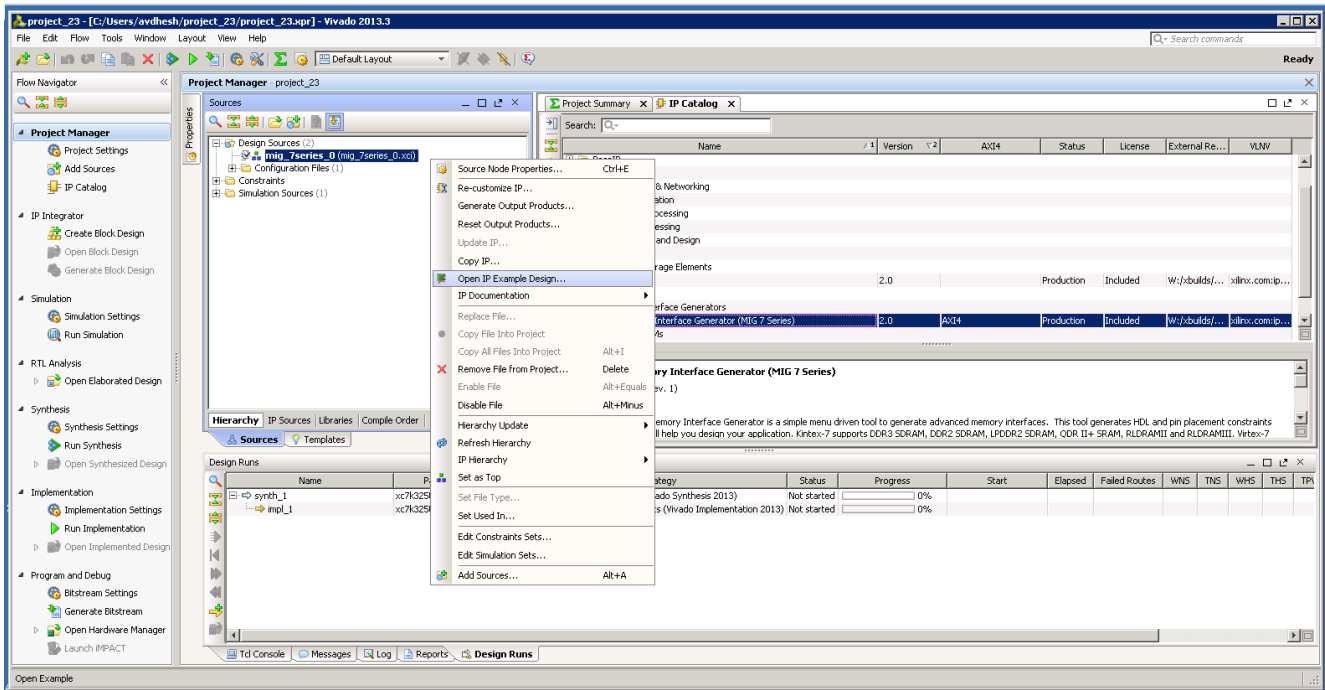

Figure 3-32: Open IP Example Design
- The Vivado Design Suite supports **Open IP Example Design** flow. To create the example design using this flow right-click the IP in the **Source Window**, as shown in Figure 3-32 and select.